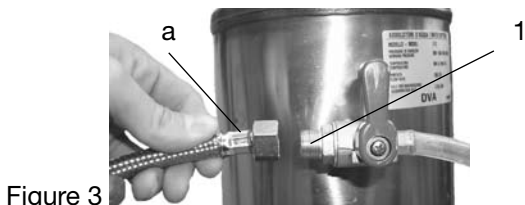

Figure 3
- 1) Use the pipe **a** (900 mm, provided with the machine) to connect the cut-off valve of the mains to the tap **1** for water inlet to the water softener (figure 3).